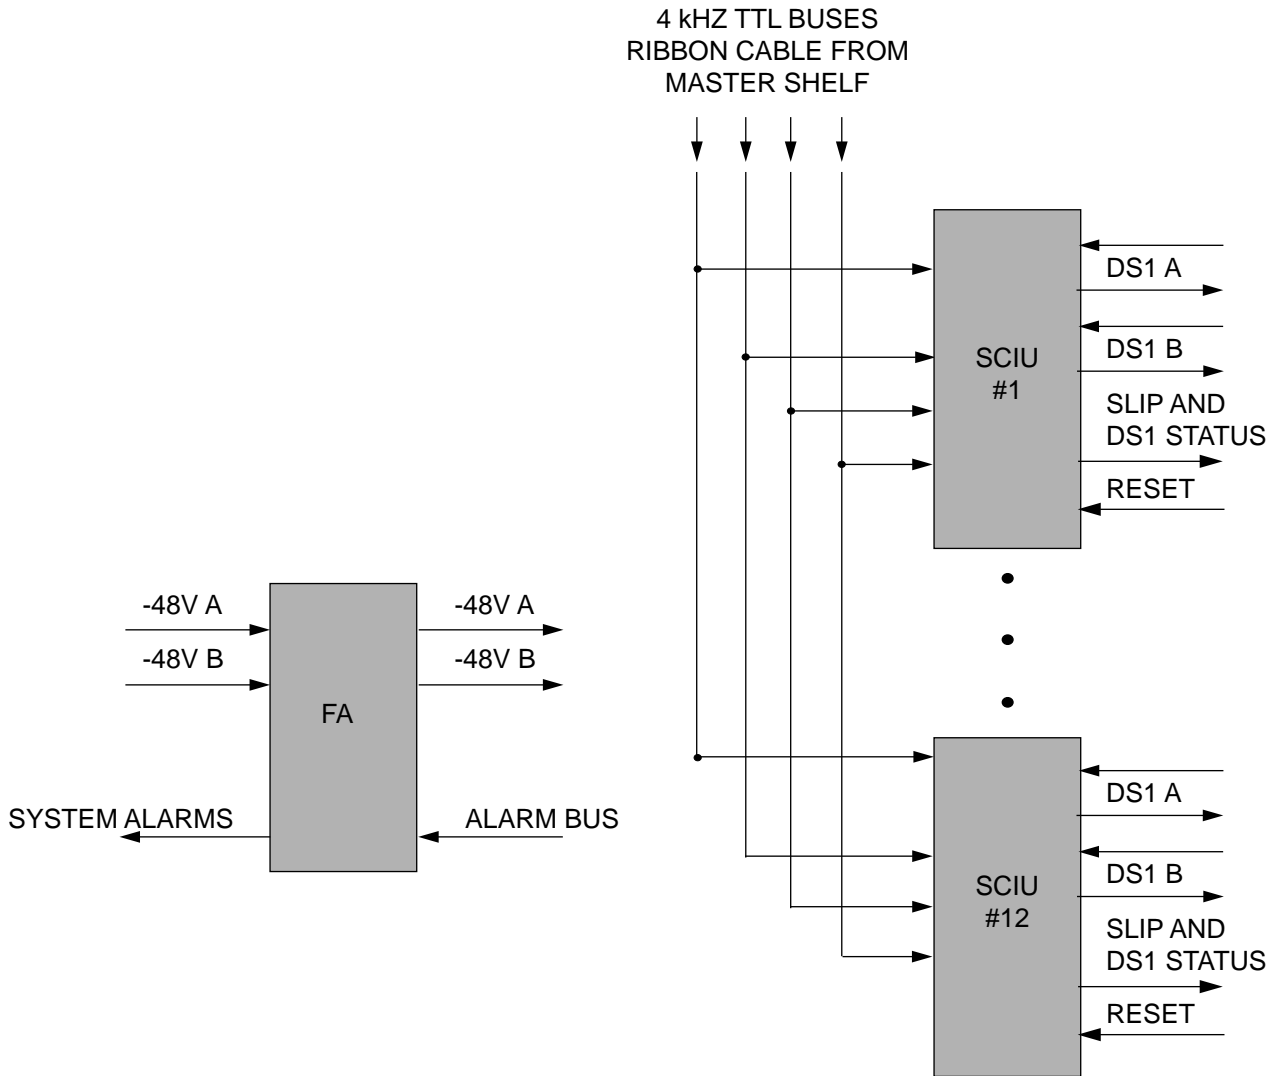

Figure 6. CIM System - Expansion Shelf
2.36 When used as an expansion shelf (Figure 6), the CIM shelf backplane is connected directly to the DCD master shelf via a ribbon cable; additional CI (or ACI) cards or ST3 cards are not required.